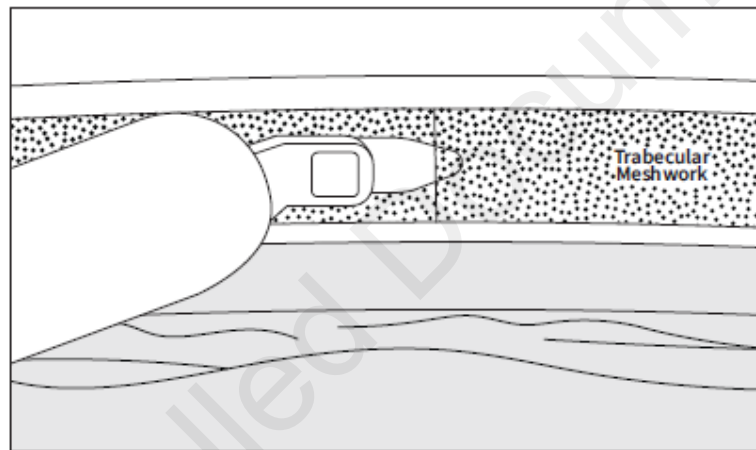
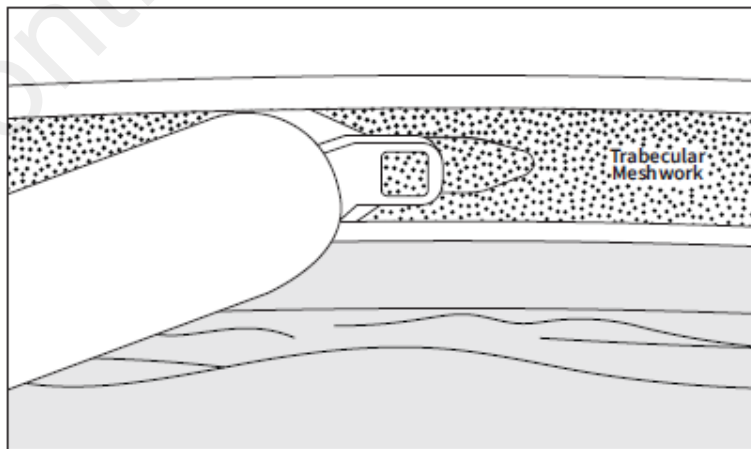

Figure 4: Entry with toe of SION
Figure 5: Advancing the foot in Schlemm's Canal
- e. With the trabecular meshwork identified, use the toe (Figure 4) of the SION to puncture the trabecular meshwork and advance the lower foot into Schlemm's canal (Figure 5)